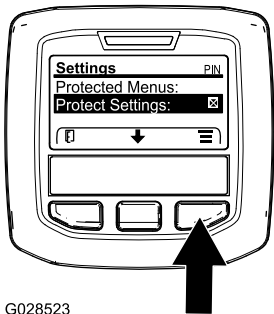

Figure 19
1. From the MAIN MENU, use the center button to scroll down to the SETTINGS MENU and press the right button (Figure 19).